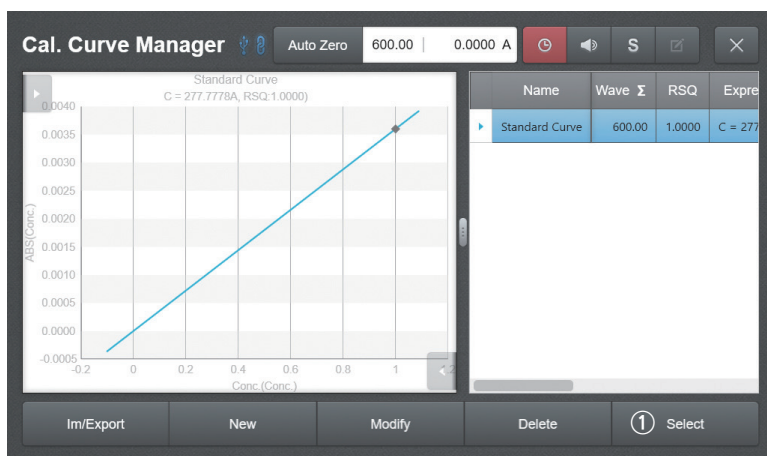

Fig. 4.16
10. [Fig. 4.16] Select the saved standard curve and press ① **Select** to enter Quantitation mode.